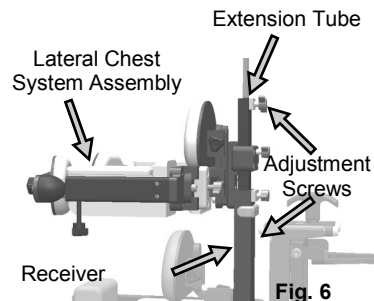

Fig. 6
- Slide the Extension Tube through the Lateral Chest System Assembly (fig. 6).
- Slide the Extension Tube into the top of the Receiver Tube. Set pads at proper heights and tighten both adjustment screws (fig. 6)